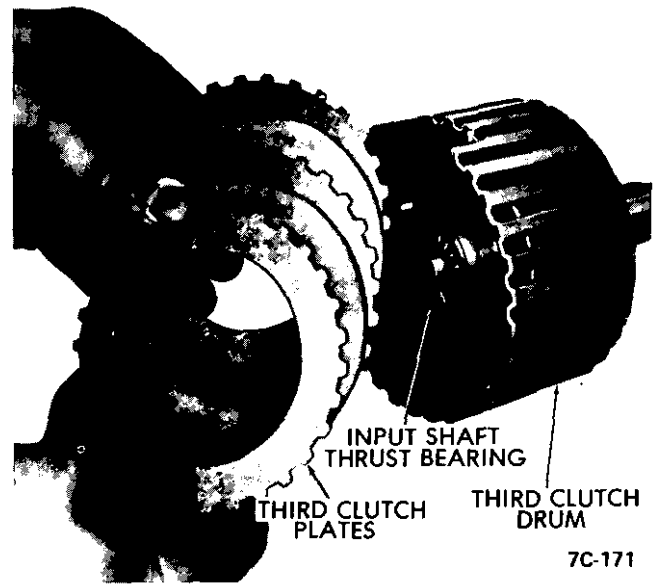

Figure 7C-171
7. Remove snap ring using snap ring pliers such as J-8059. See Figure 7C-172.